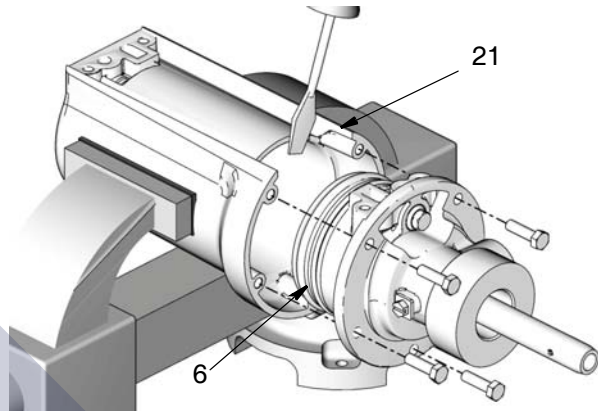

Fig. 10
17. Using a 10 mm socket wrench, remove the 5 screws (4) from the flange (22).
18. Using your hand, firmly grasp the flange (22) and remove the entire assembly from inside the air cylinder (21).
NOTE: Sliding the flat blade of a screw driver between the flange (22) and air cylinder (21) will help separate the two parts. Be careful not to damage the o-ring (6) (Fig. 10).